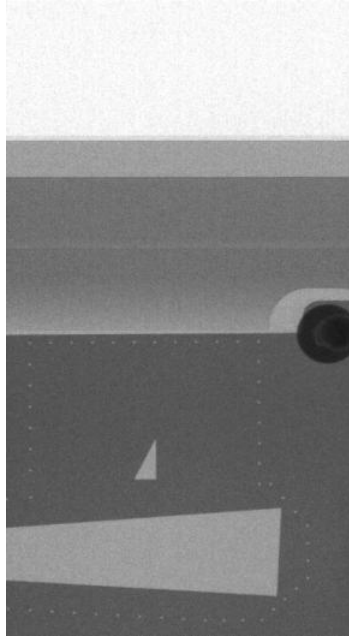

Figure 18 X-ray spot Golden Unit
23. Go to the following directory **C:\Program Files\AXI System\v810\REV\log\calib\XraySpot** and obtain the cam_0.png. Ensure the image of the X-ray spot is optimized as shown in Figure 18.